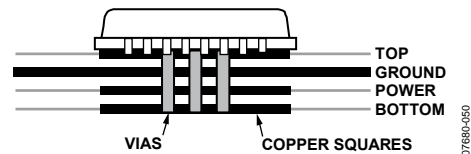

Figure 63. Exposed Pad Layout Example, Side View
- A copper layer equal in size to the exposed pad should be on all layers of the board, from top to bottom, and should connect somewhere to a dedicated copper board layer (see Figure 63).